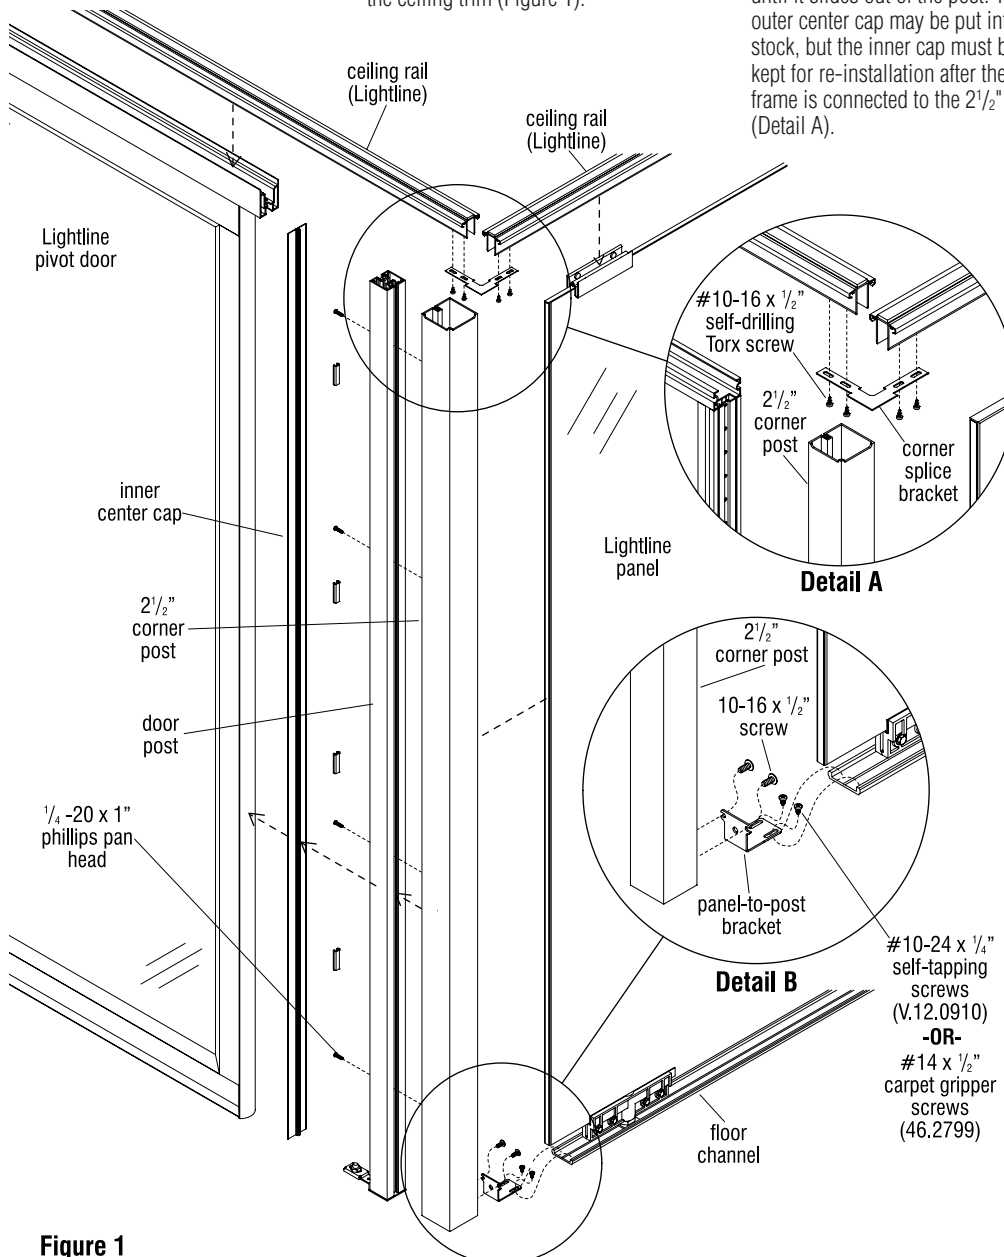

Figure 1
10. Next, prepare Lightline panel with flexible seal. See Lightline Assembly Instructions "Flexible Glazing Seal at Door Frame and Posts" (Figures 1 through 4, page 28). Once seal is installed, position a properly aligned and adjusted Lightline panel against the 2 1/2" corner post (Figure 2).